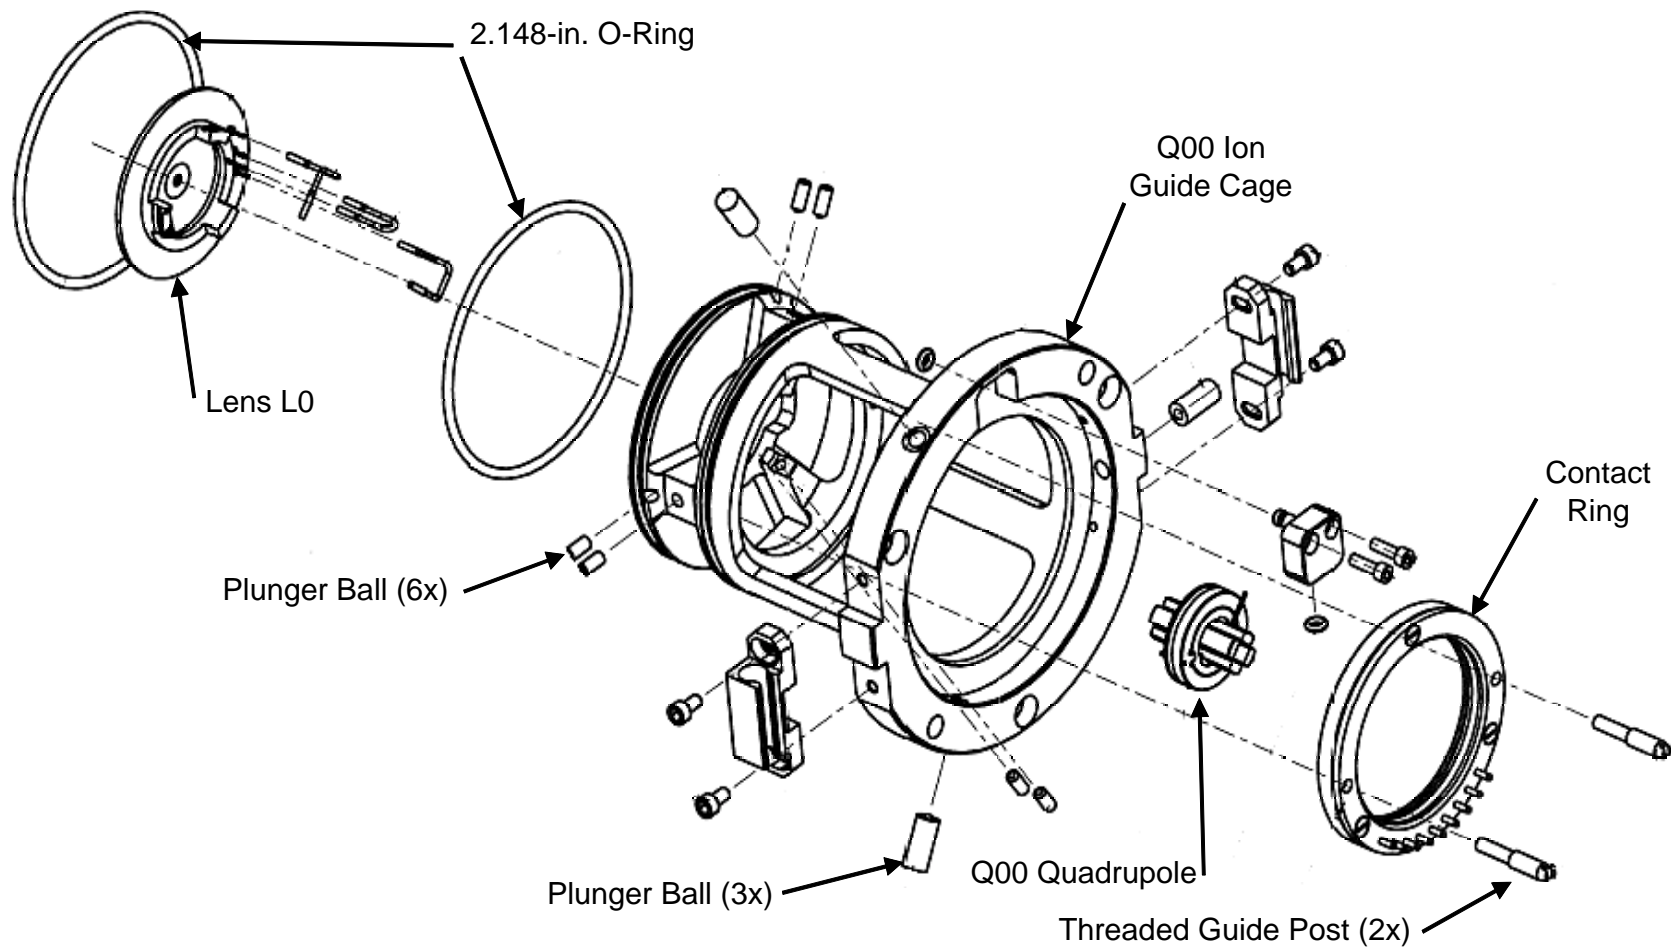

Figure 4-12. Exploded view of the Q00 ion guide
2. Remove lens L0 from the rear of the Q00 ion guide cage. (Lens L0 is secured to the Q00 ion guide cage by plunger balls.) See Figure 4-12 for the location of the Q00 ion guide components.
You need to remove the top cover plate of the vacuum manifold to access the Q0 and Q1 ion guides, mass analyzer, and ion detection system. The top cover plate is held in place by gravity and by the air pressure differential between the vacuum manifold and atmospheric pressure. Six cables are connected to the top cover plate. See Figure 4-12.